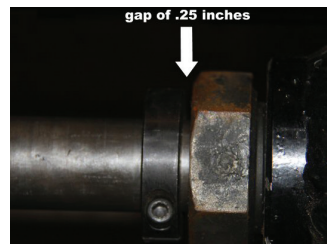

Figure G-7
**G.11)** Place a stop collar over the shaft of the insertion tool and tighten onto the shaft with a small gap of at least 1/4 inches above the top of the packing nut. The gap is necessary to ensure enough travel will be provided to completely install the valve cartridge. Make note of the small gap that was used (see Figure G-7).